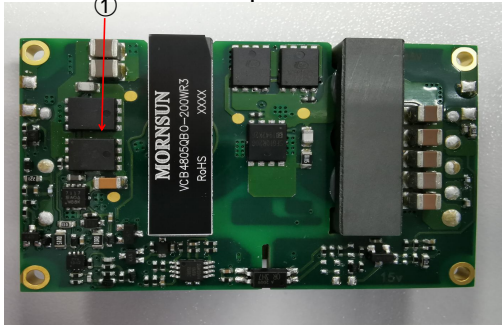

Fig.5
The thermal element is installed on the top surface of the product and dissipates heat to the surrounding environment through conduction, convection and radiation. Sufficient heat dissipation conditions should be provided to ensure the reliable operation of the product. By measuring the temperature of the thermal test point ① in Fig. 5, it can be verified whether the heat dissipation conditions are met.